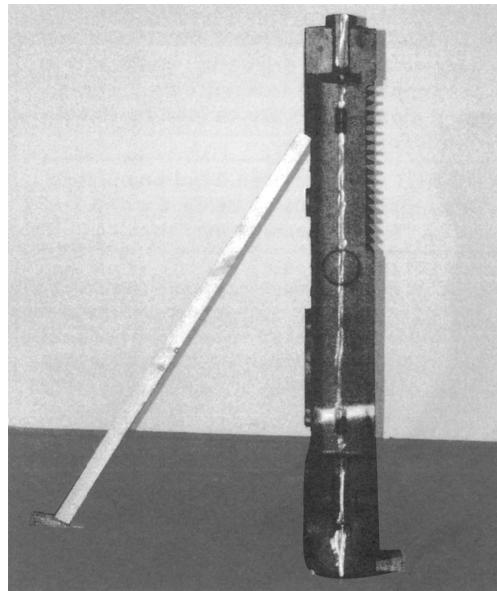

Figure 5: Positioning of Back Section
- Place the rear section in its approximate final position, as outlined in Section I, and support it with a suitable prop and wedges. See Figure 5.
- While the adhesive is becoming tacky, clean nipples and nipple ports thoroughly with a de-greasing solvent. Use Loctite #592 or equivalent to lubricate the nipples and nipple ports. Apply the lubricant to the nipples and nipple ports, then use a brush to disperse it evenly around the nipples and the nipple ports. Use approximately 25 ml of Loctite #592 per flueway [(1) 7" and (2) 3" nipples and their (6) corresponding nipple ports].